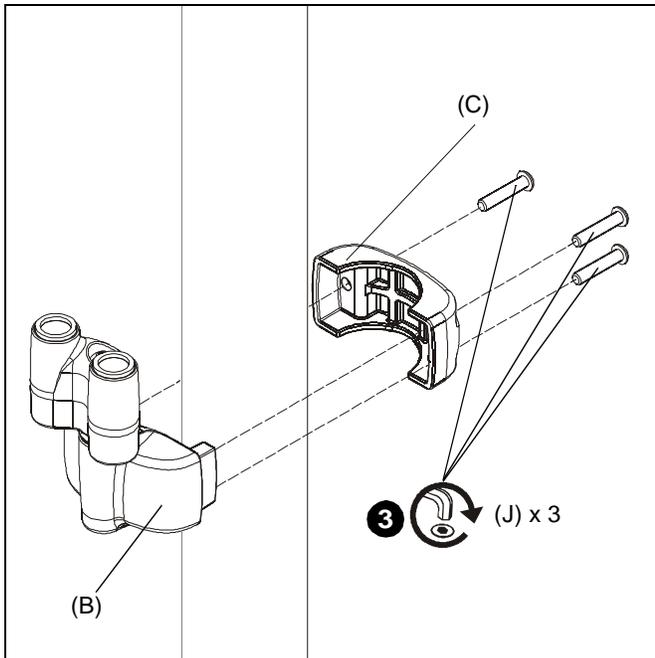

Figure 1
2. Place Y-adapter pole clamp (B) against pole, with pole clamp back (C) on opposite side of pole. (See Figure 1)
3. Using 5/32" hex key, loosely assemble with three 1/4-20x 1 1/4" button head cap screws (J). (See Figure 1)